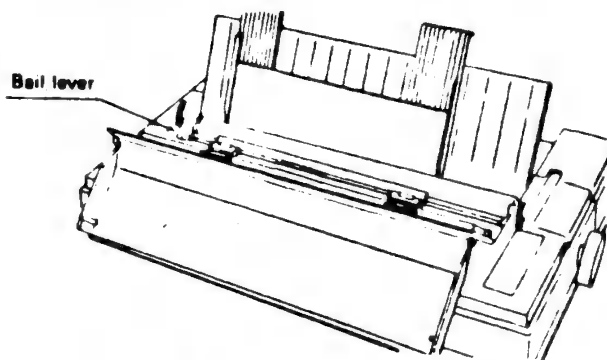

Figure 2-14 Setting the Bail Rollers
7. Set the left roller about 1" inward from the left edge of the paper and the right roller about 1" inward from the right edge of the paper, as shown in Figure 2-14. Close the bail rollers.